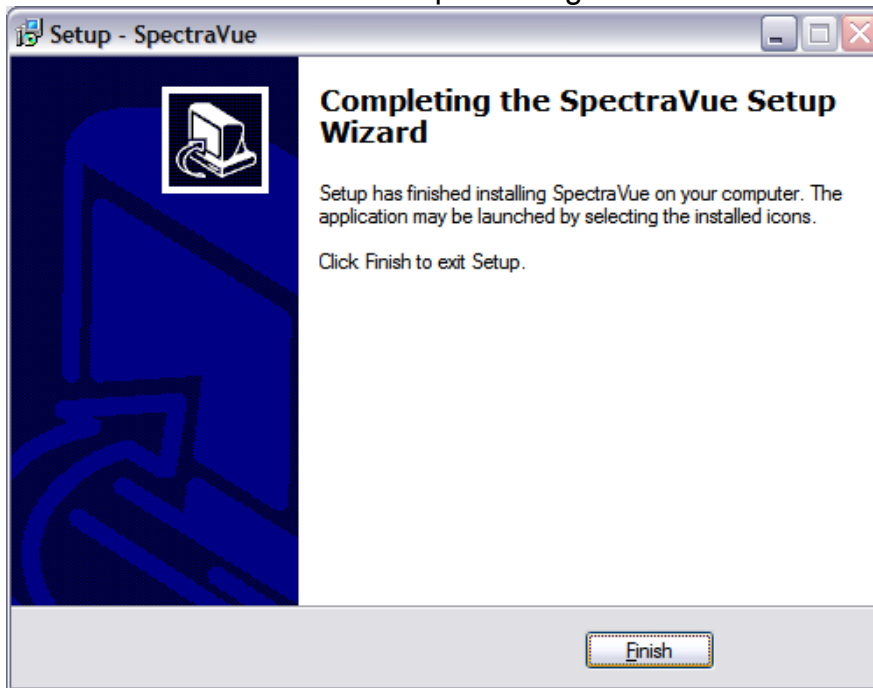

Fig 7: Finish and exit Setup.
1.7 Click “Finish” to exit the setup as in Fig 7.